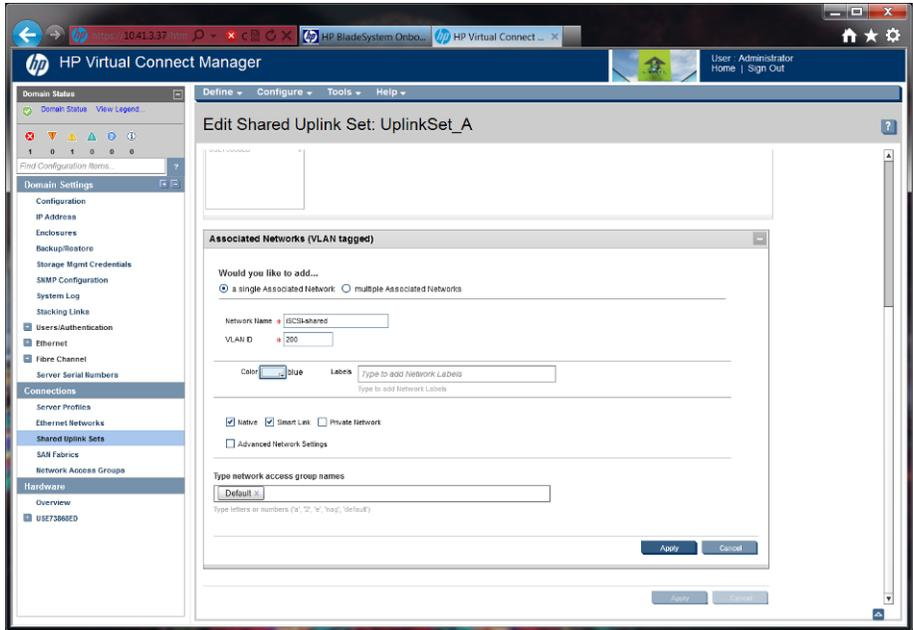

Figure 14: Adding a VLAN-tagged network.
- Under Associated Networks (vLAN tagged), click Add. (See Figure 14.)